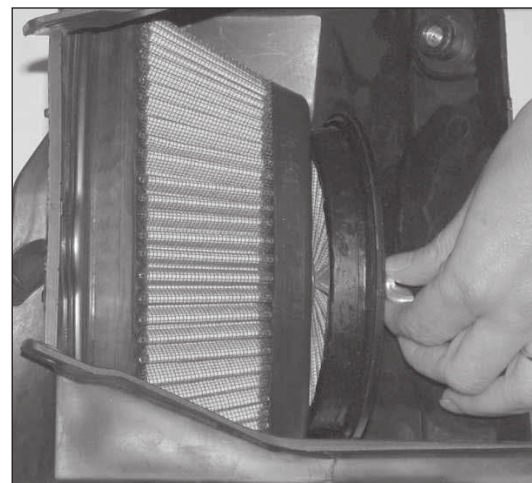

Fig. 3
- 7) Install the XStream® top and wing bolt into the air box and against the backing plate. (Fig. 3)